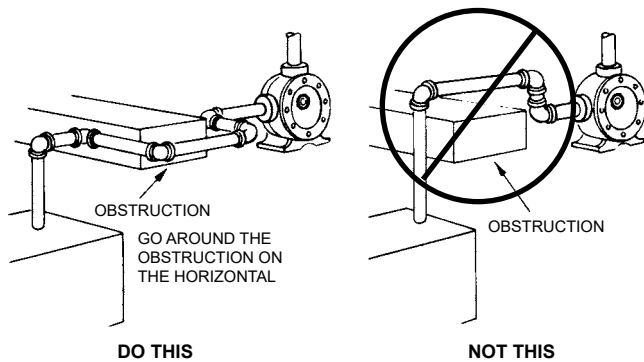

FIGURE 10
- When approaching an obstacle in the suction or discharge line, go around the obstacle instead of over it. Going over it creates an air pocket. **See Figure 10.**